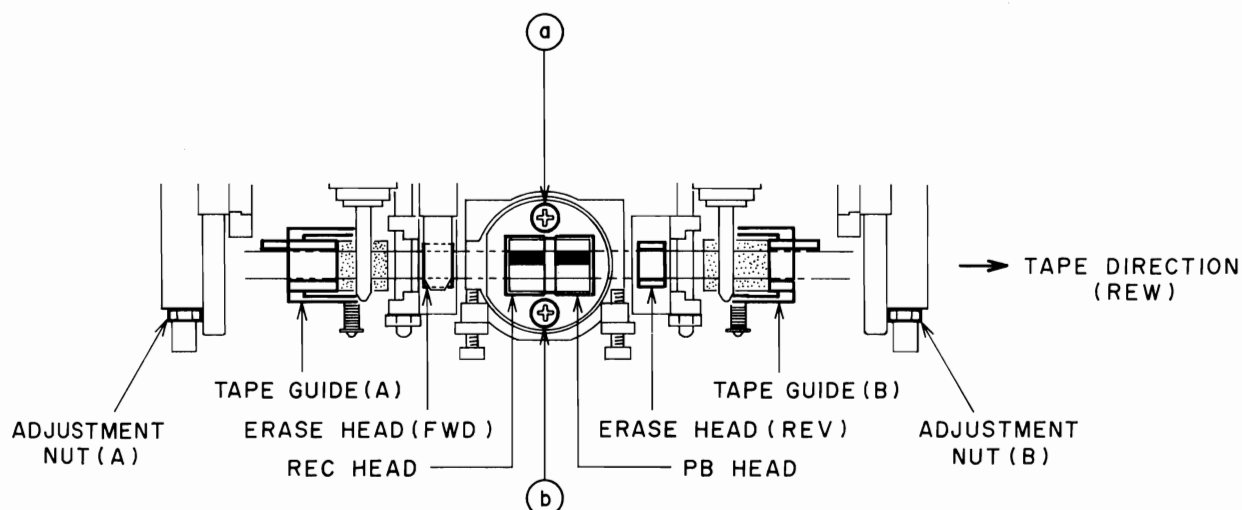

Fig. 6-1
6-1 TAPE GUIDE HEIGHT ADJUSTMENT (Refer to Figs. 6-1 and 6-2)
6-1-2 When only Erase Head was replaced (Refer to Figs. 6-1 and 6-2)
6-3 HEAD HEIGHT ADJUSTMENT (Refer to Figs. 6-1 & 6-2)
- 3) If the difference is more than ± 0.5 dBm in item 2), adjust the erase heads by turning both Erase Head Height Adjustment screws ① & ② in the same direction by 1/4 turn (± 0.1 mm), so that difference is within ± 0.5 dBm.
- 4) The Head Height Adjustment is necessary if still the difference could not be corrected by above adjustment. It can be done by changing the Head Height Adjustment Spacers ③ & ④ (The thicknesses of these spacers are ③ = 0.45 mm, ④ = 0.35 mm). Loosen the screws ⑤ ⑥ & ⑦ for the spacer replacement. If the level is lower in REV mode, it means that the head is too high, therefore replace the spacers by thinner ones. When the level is higher in REV mode, replace them by thicker ones. After the replacement of those spacers, do the same adjustment in item 1) and check the level of LINE OUT is -5.5 dBm ± 0.5 dBm. For the further confirmation, playback a 4 Track head Height Adjustment Tape (1 kHz/4 Track, AT-750775). Line Output level of both channels should be more than -8 dBm and the difference in level between FWD and REV modes should be within ± 1 dB. Otherwise do the fine adjustment in the same manner as item 3) & 4).
- 5) When the head replacement is necessary, loosen only the screws ① & ② in Fig. 6-1 for easy replacement.